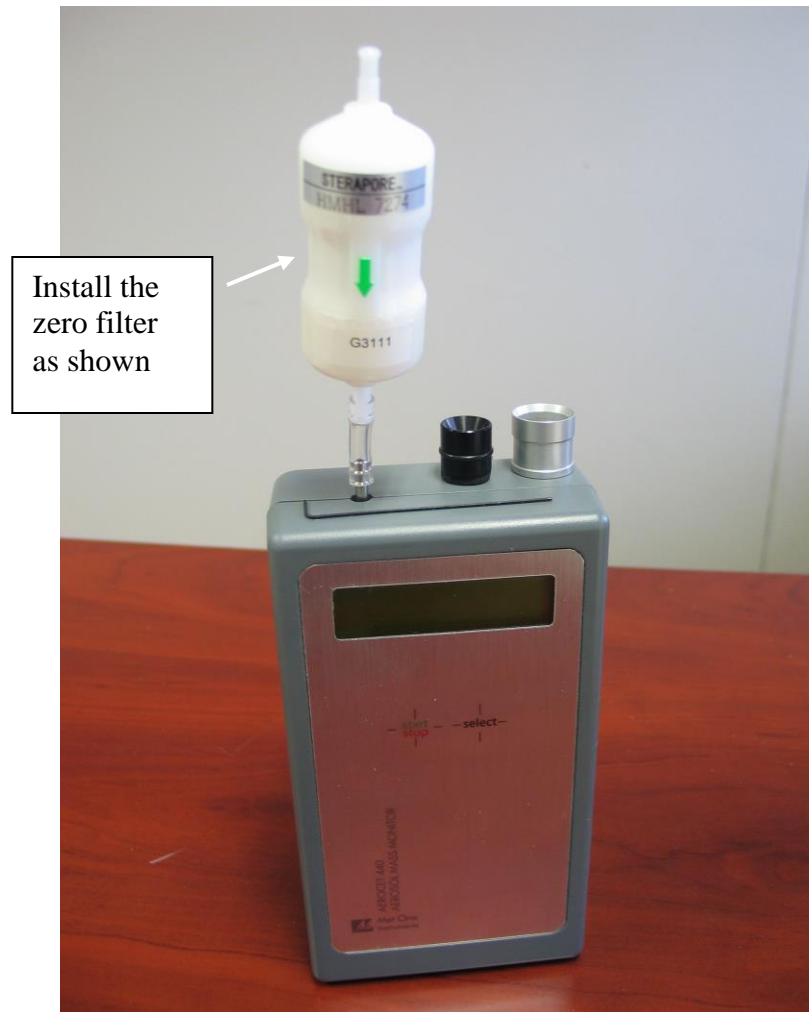

Figure 3: SHOWN ABOVE – 80430 attached to the inlet nozzle.
(see figure 3)
- 3.3. Attach the 80846 zero filter to the inlet of the particle counter. (see figure 3)